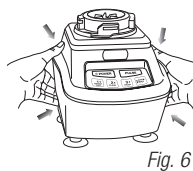

Fig. 6
- 11 To release the motor base from the counter or table top, place your hands underneath both sides of the motor base and gently pull the unit up and towards you. (Fig. 6)